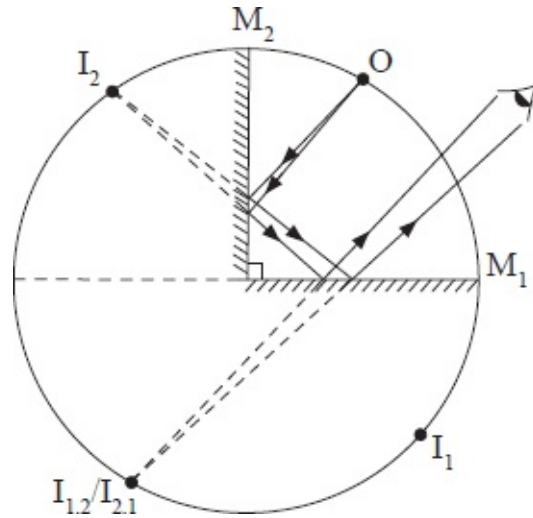

Fig. 8.36: Images formed by two plane mirrors inclined at 90° to each other
- Arrange two plane mirrors M_1 and M_2 at right angles to each other on a level bench, as shown in figure 8.36.
When two mirrors are inclined at right angles to each other as in figure 8.36, two images I_1 and I_2 are formed by a single reflection by mirrors M_1 and M_2 respectively. Two extra images $I_{1,2}$ and $I_{2,1}$ are produced by double reflections. The subscripts in the symbols $I_{1,2}$ and $I_{2,1}$ signify the order in which reflections take place. Thus, $I_{1,2}$ implies reflection by mirror 1 then mirror 2.
The image I_1 is seen by looking into mirror 1 and image I_2 by looking into mirror 2. The two images $I_{1,2}$ and $I_{2,1}$ are actually superimposed on one another so that we only see a total of three images as in figure 8.36.